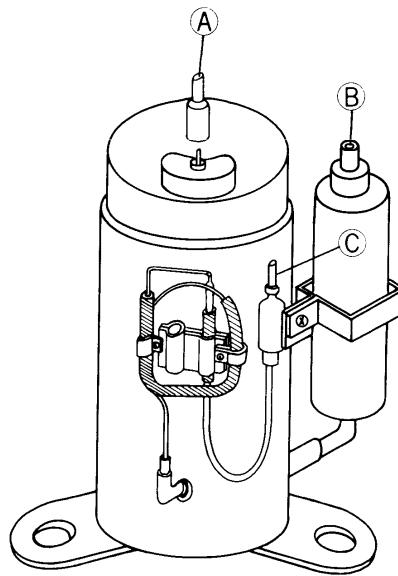

Fig. 22
- 2) For the new service compressor, blind tubes have been applied at the three places (A), (B), and (C) to prevent entry of dirt and moisture. At the time of exchange, remove these tubes, and then connect the unit tubing. Fig. 22